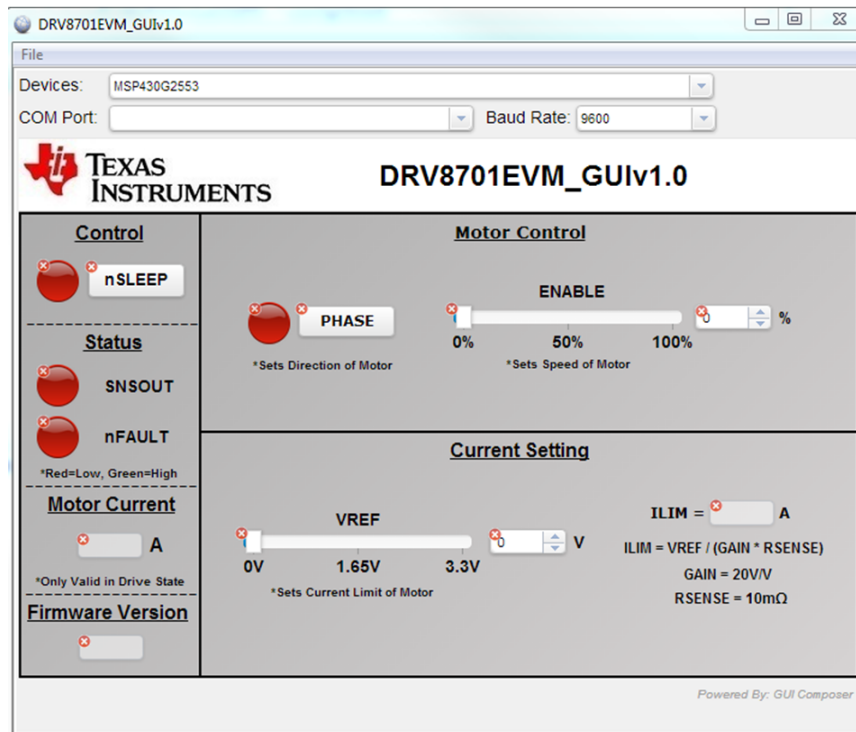

Figure 5. DRV8701EVM GUI Disconnected
Step 3: The GUI now opens and attempts to connect to the MSP430G2553. This may take a few minutes. If the application appears to freeze, close and then restart the GUI. Red X's appear while the GUI is trying to connect to the MCU (Figure 5).